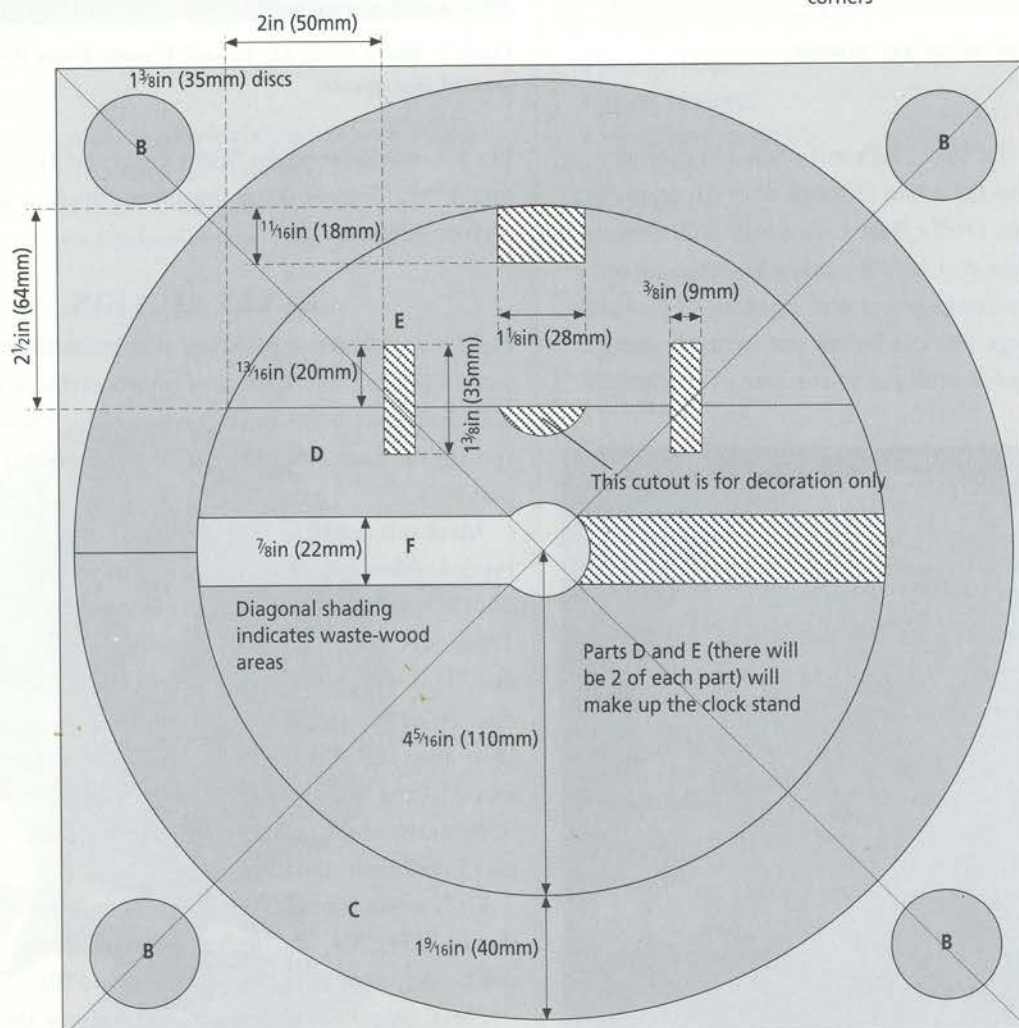

Fig 5.4 Plan for laying out the parts to be cut from the second ply square.
Mark out the second square piece of ply as shown in Fig 5.4. After you have completed the design, cut out the $11\frac{13}{16}$ in (300mm) diameter disc with a fret saw. Then cut out the $8\frac{11}{16}$ in (220mm) diameter centre disc. This will give you the outer ring (C) and a centre disc. From the centre disc cut out parts D, E and F. (The areas in Fig 5.4 with diagonal shading are waste wood.) Parts D and E will form the stand on which the body of the clock will rest when assembled for play, and part F will form the hour hand.
Drill a $\frac{1}{4}$ in (6mm) hole in the hour hand (F) as shown in Fig 5.4. The decorative semicircular notches can be shaped with a $\frac{1}{4}$ in (6mm) round file.